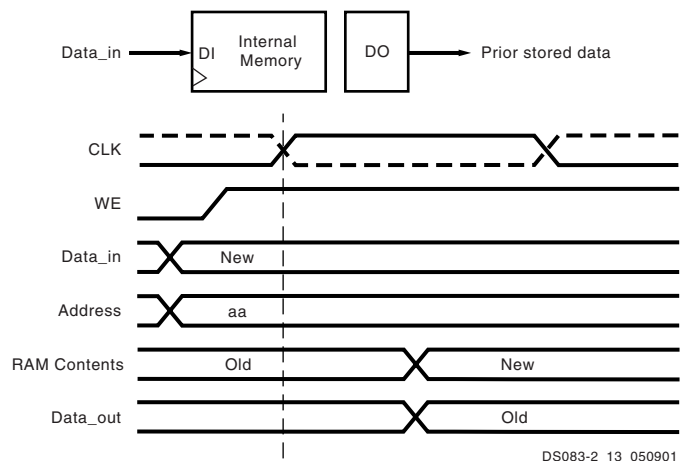

Figure 41: READ_FIRST Mode
The same clock edge that writes data input (DI) into the memory also transfers the prior content of the memory cell addressed into the data output registers DO, as shown in Figure 41.